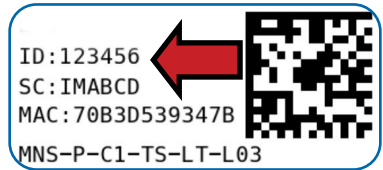

Figure 1
**2. Find the device ID. See Figure 1.**
**Physical Installation:** Make a sensor access hole to the desired depth with a 7/8" (22mm) O.D. rod/auger. Fill the bottom of the hole with a thick slurry made of soil removed from the hole and water, then firmly push the sensor down into the mud in the bottom of the hole. This will "grout in" the sensor to ensure maximum surface contact between the sensor surface and the surrounding soil. Alternately, the sensor can be firmly pushed to the bottom of the access hole as long as it is a tight enough fit to ensure adequate contact; a snug fit is absolutely necessary. A length of 1/2" Class 315 PVC (thin wall SDR 13.5) or 3/4" CPVC (SDR 11) pipe will fit snugly over the sensor's collar and can be used to push in the sensor. A good snug fit in the soil is important. This PVC can be solvent welded to the sensor collar with a transition solvent PVC to ABS cement. If the PVC pipe is not left on the sensor (not-recommended), then backfill the hole so the sensor is buried (see Fig. 1). It is important that water doesn't run down the sensor lead and reach the sensing element directly so it is recommended to bury a small horizontal section of the lead (6 to 12" of lead under 3 to 6" of packed soil). If PVC is left on, then compact soil around the surface to seal off the hole (see Fig. 2). The PVC acts as a conduit for the sensor's wires. Be sure to cap off or tape the top of the pipe, so surface water will not infiltrate to the sensor and give a false reading. Drill a small hole at the bottom of the pipe to allow any trapped water to drain away. Label each sensor lead to indicate sensor depth.